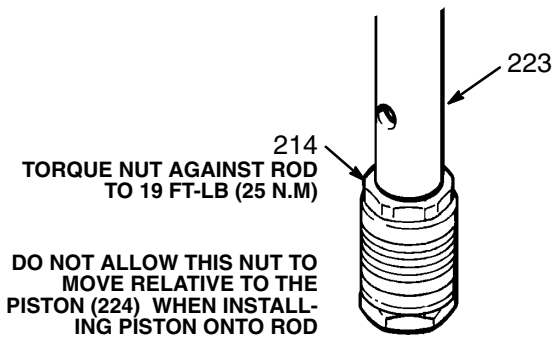

Fig 14
- Torque the nut (214) against the rod (223) to 19 ft-lb (25 N.m). Use two wrenches to maintain the alignment as mentioned in the **NOTE**. See Fig 14.